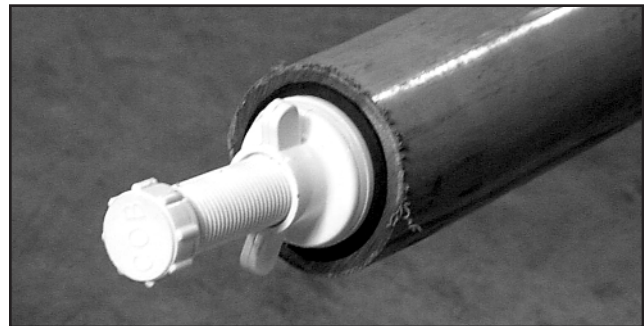

Figure 4. Inserting Plug
1. Insert a bending plug in each end of the conduit before heating as described below. See Figure 4. The retained air will expand during the heating cycle and the internal pressure will adequately support the conduit and prevent collapsed material.
- Loosen the wing nuts. Adjust the clamp by sliding the outer section until the opening will accommodate the PVC conduit. See Figure 4.